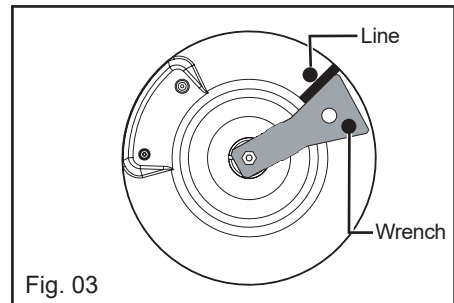

Fig. 03
- **Above an empty cabinet or a drawer (Fig. 03).** Leave a minimum ventilation space of 8 cm behind the cabinet, and a 0.5 cm gap along the whole width of the cabinet.
- Turn the wrench clockwise until the line appears on the opposite side of the key (Fig. 03).